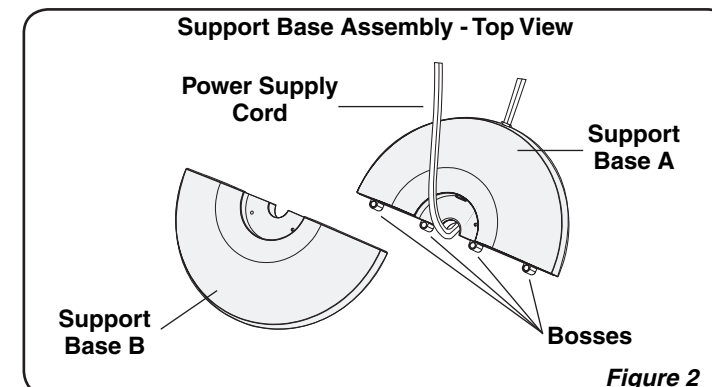

Figure 2
- Assemble the Bases by interlocking the **Bosses** on **Support Base A** into the **Boss Holes** on **Support Base B**. Thread the **Power Supply Cord** through the large hole in the center of the **Support Base Assembly**. (**Figure 2**)